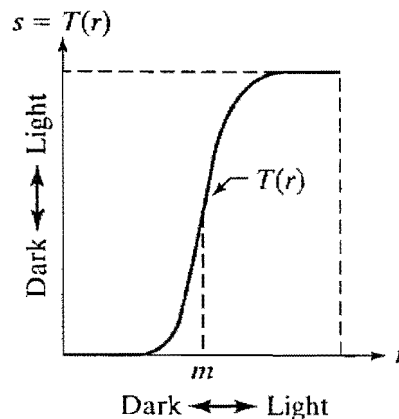

Figure 1
- (d) (i) Give a continuous function for implementing the contrast stretching transformation shown in Figure 1. In addition to m , your function must include a parameter, E , for controlling the slope of the function as it transitions from low to high gray-level values. Your function should be normalised so that its minimum and maximum values are 0 and 1, respectively. [2 marks]